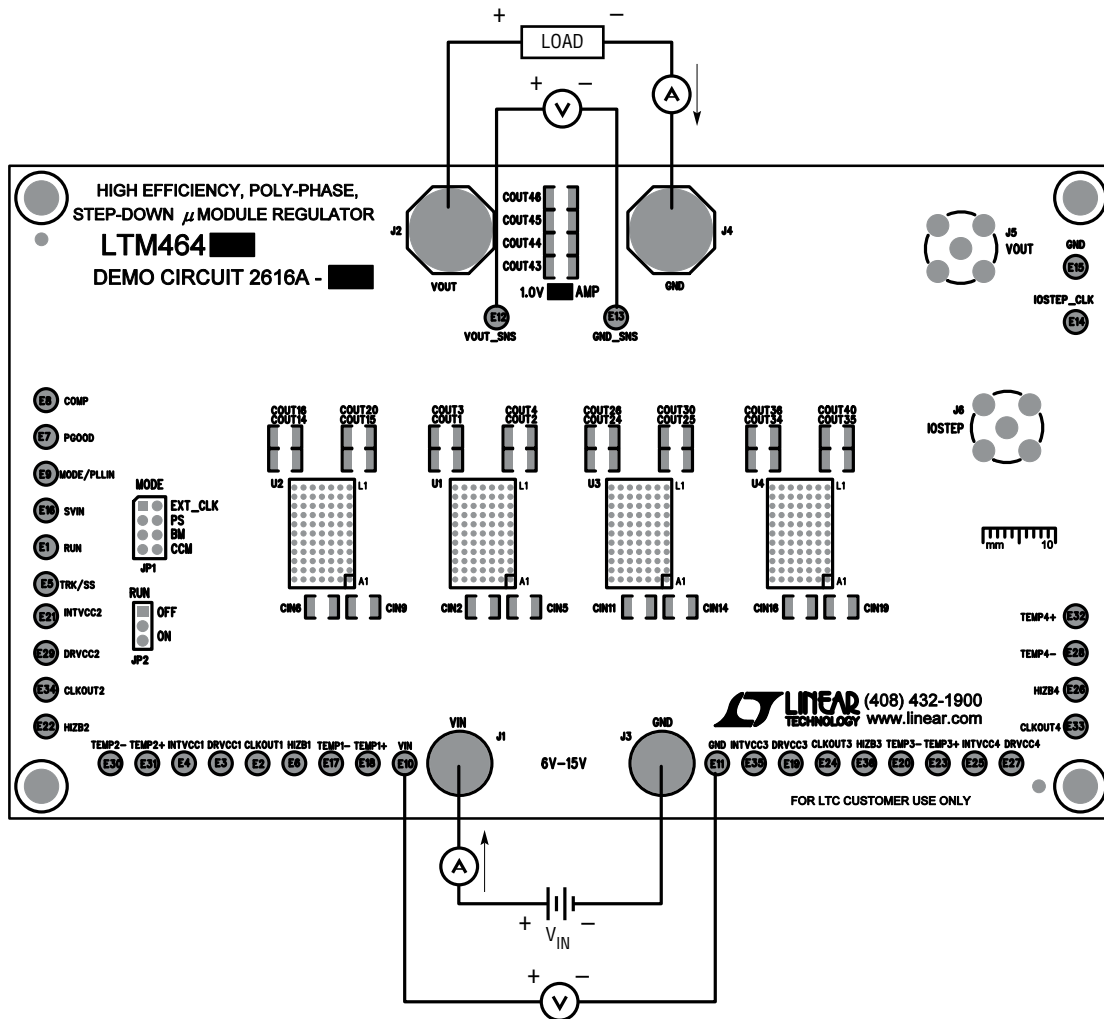

Figure 1. Measurement Setup of DC2616A-A
Demonstration circuit DC2616A-A is an easy way to evaluate the performance of polyphase operation of the LTM4645EY. Due to the high input/output current, the user should select the proper input supply/load/cable which can sustain the full load operation. Please refer to Figure 1 for proper measurement equipment setup and follow the procedure below:
2. With power off, connect the input power supply, load and meters as shown in Figure 1. Preset the load to 0A and  $V_{IN}$  supply to 12V.